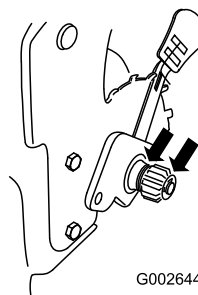

Figure 45
2. Apply a lubricating oil to the inner and outer sides of the gears as shown in Figure 45.